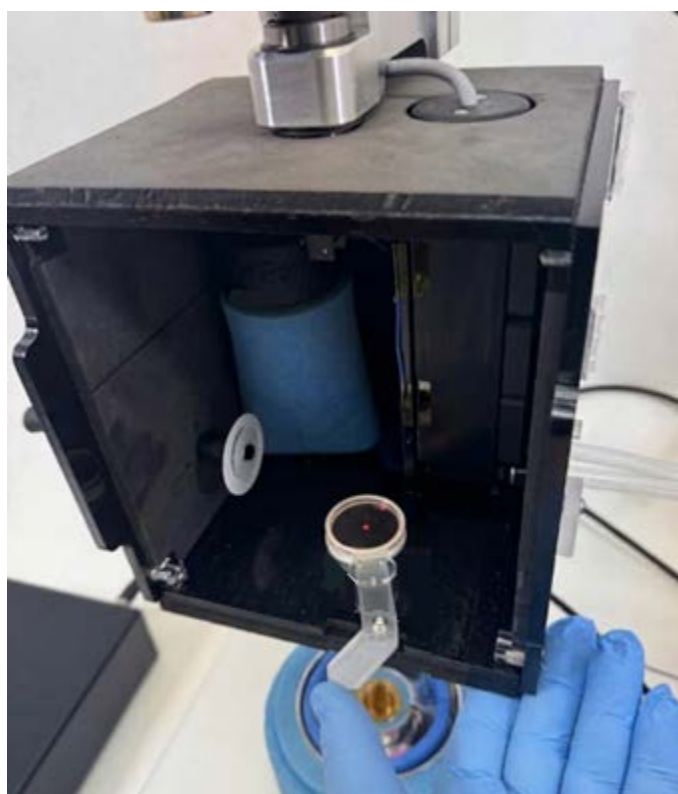

Figure 11: Sealing of plunge hatch prior to cooling and humidification of enclosure
STEP 3. Ensure that the plunge hatch is covered with a hatch foil (see **Figure 11** below). If a hatch foil is not yet present in the enclosure, please be sure to install one. Close both enclosure doors.